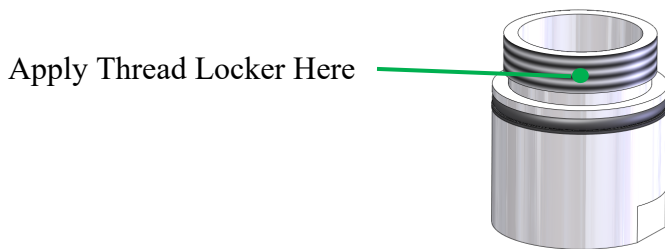

Figure 58: Piston Sleeve
8. Apply a small amount of medium strength thread retainer on the piston sleeve's threads. See Figure 58.